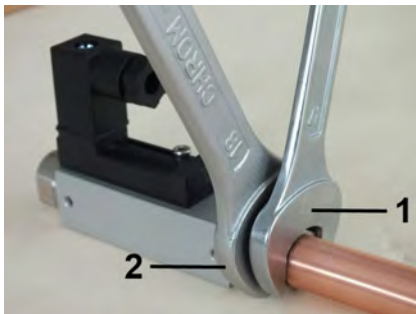

Fig. 11: Screw in the device
2. ➤ Fasten the adapter union of the pipeline with an appropriate spanner (Fig. 11/1) When doing so, lock the process connection in place to prevent slip, using a suitable spanner (Fig. 11/2)